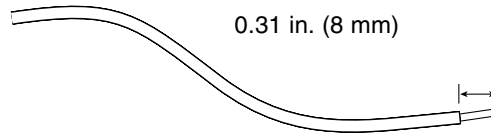

FIGURE 4-2 Stripping the Insulation From the Wire
5. Strip 0.31 inches (8 mm) of insulation from each of the wires coming from the DC power source (see FIGURE 4-2).